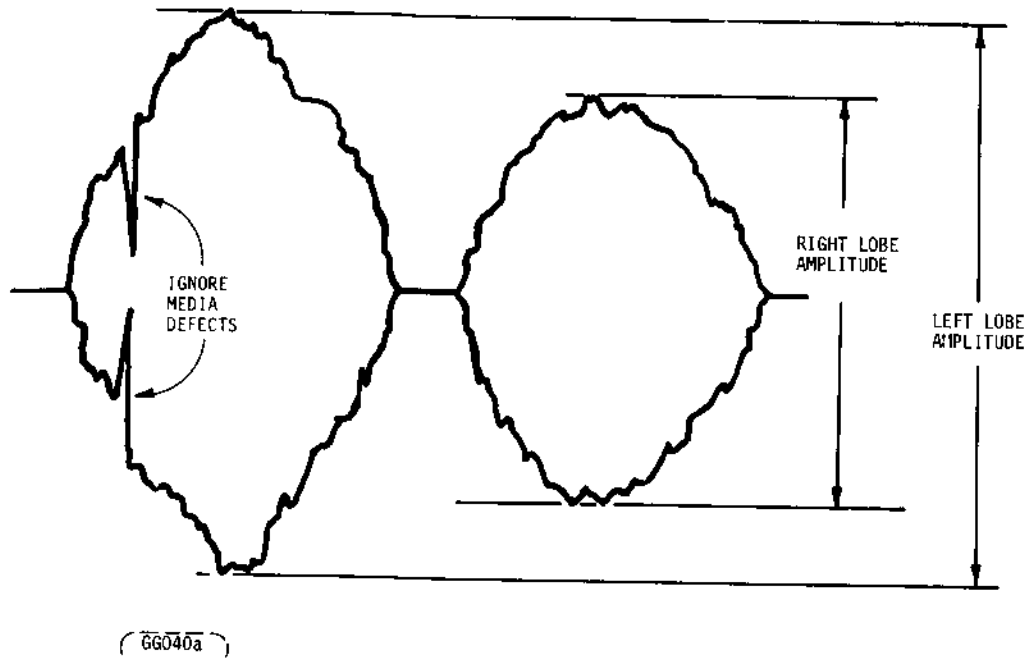
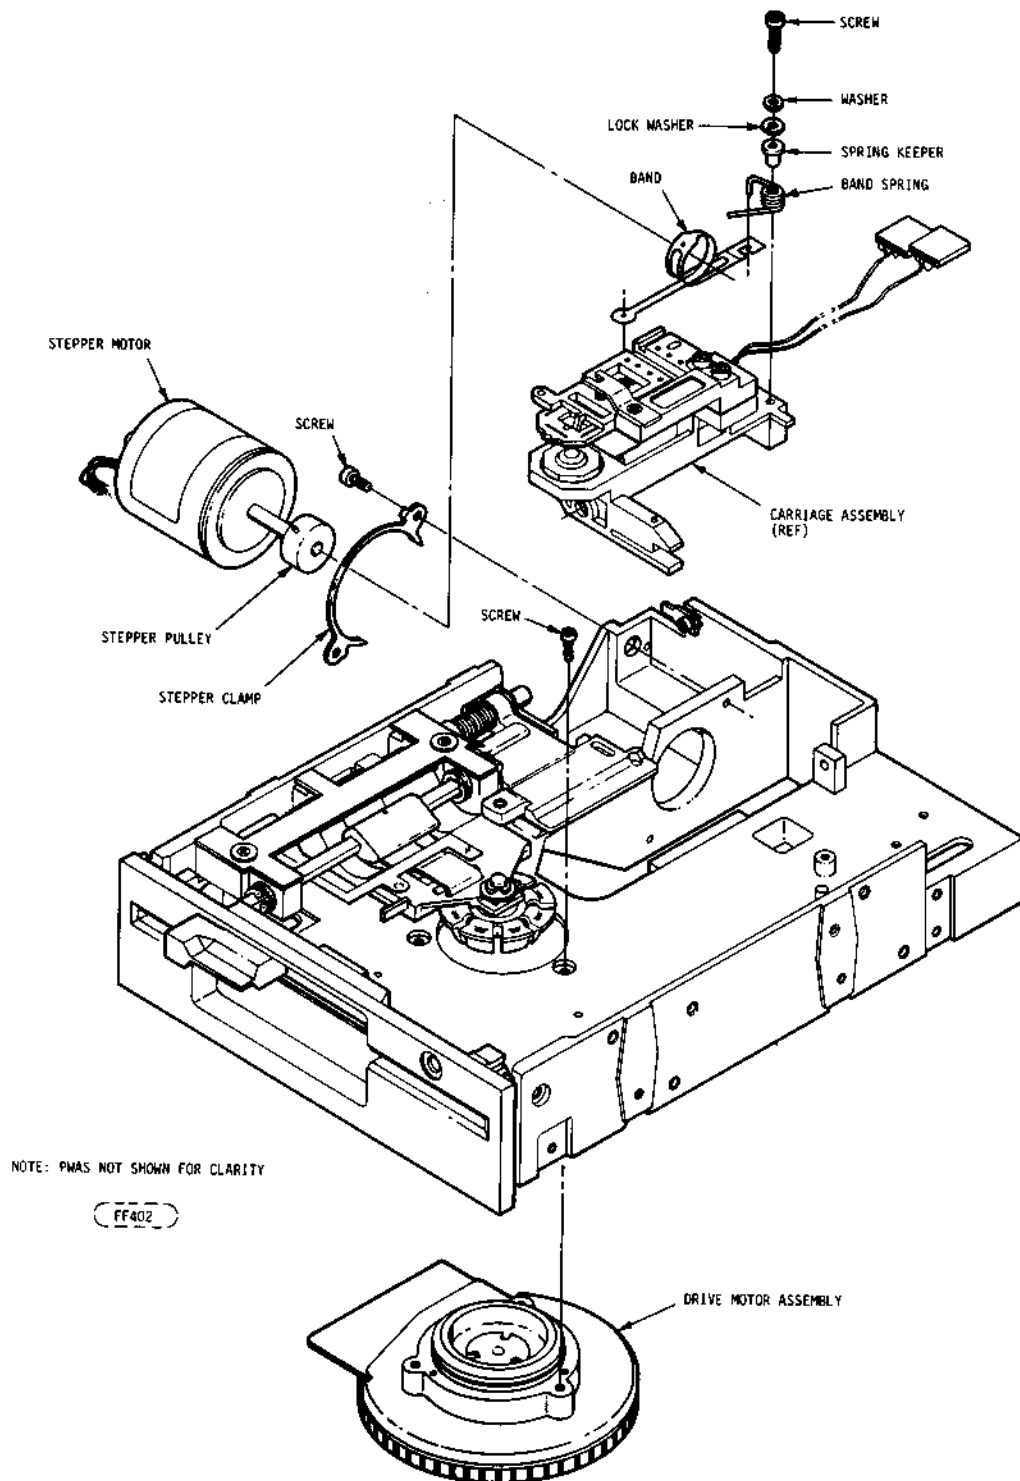

FIGURE 6-5. HEAD ALIGNMENT AMPLITUDE
FIGURE 6-8. DRIVE MOTOR REMOVAL
Scope trace, after trigger level is adjusted for repetitive trace should display an envelope of data "caterpillars" consisting of two lobes (refer to Figure 6-5). If lobe pattern is observed, proceed to Step "g". If no such pattern can be displayed, proceed to Step "h".
- h. Change the scale of Channel 1 and Channel 2 to 0.02 volts/div. Move the trace on the scope (Position Knob) up until the bottom of the two lobes are setting approximately on the base line (refer to Figure 6-5). Loosen the stepper motor mounting screws (see Figure 6-8) and slowly rotate the stepper motor until the amplitude of both lobes is the same.
- b. Remove three (3) screws securing the spindle motor (Figure 6-8).